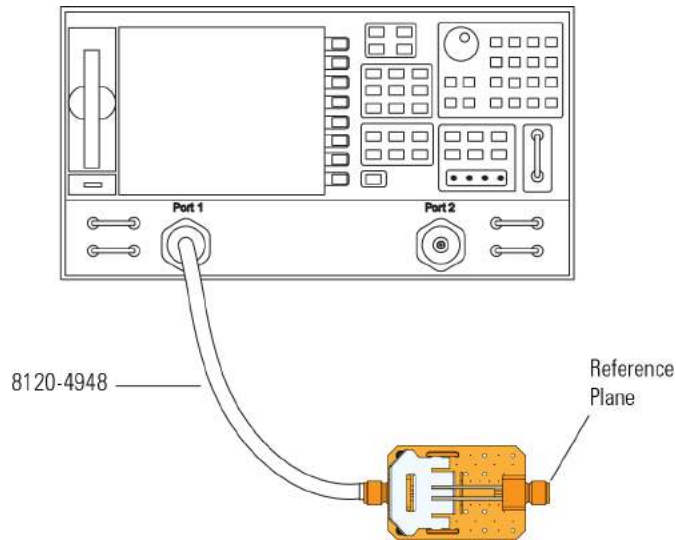

Figure 206 PV/DS Test Board Connected to VNA
- 10 Connect one of the high quality SMA cables to port one and to the pincher side of PV/DS test board as shown in **Figure 206** on page 208.